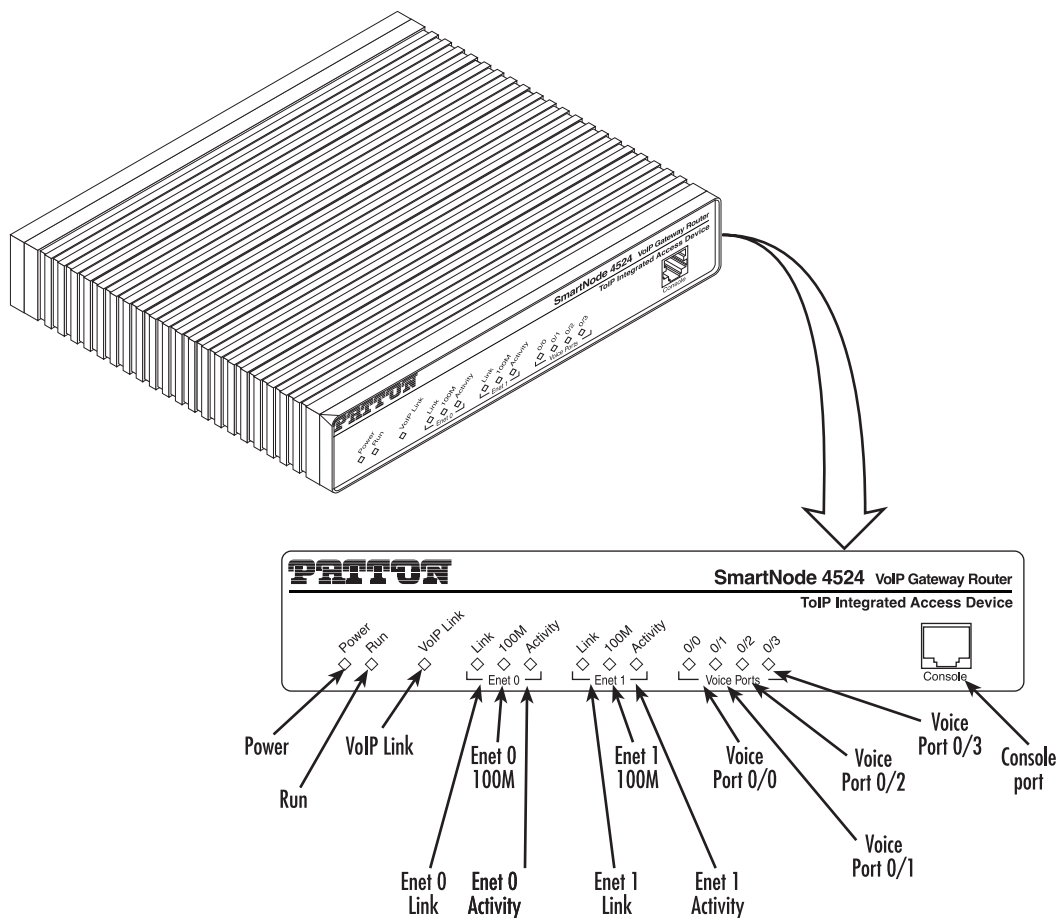

Figure 23. Router front panel LEDs and Console port locations (SmartNode 4524 shown)
- Verify that the green *Power* LED is lit (see figure 23).